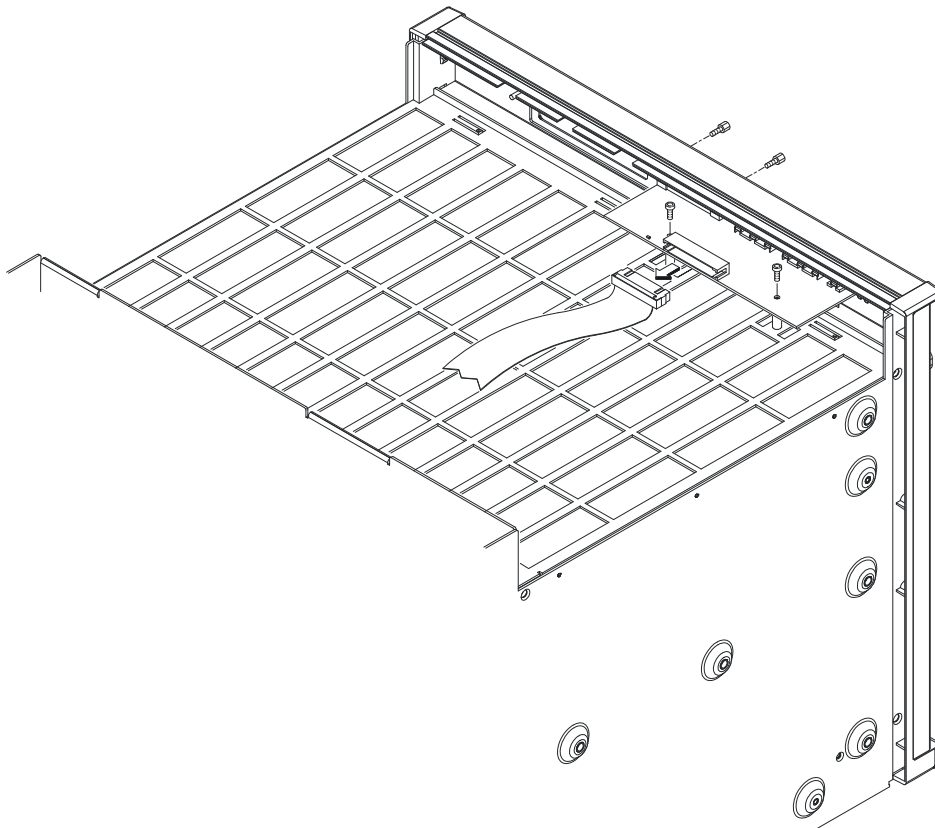

Figure 3-3. Removing the Basic Monitor Board
3. Remove the mainframe cover by removing the ten m3x6 flat head torx screws (five on each side of the mainframe). Refer to Figure 3-3.